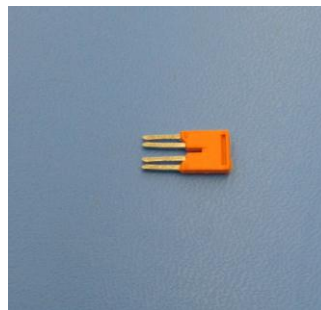
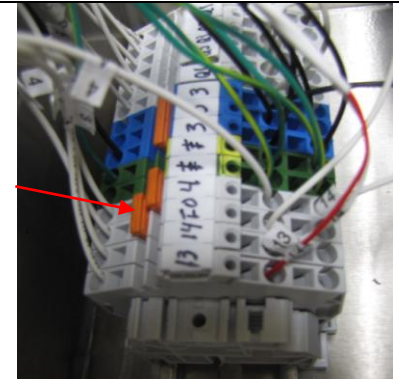

Figure 3
Figure 4
2. Obtain two-place jumper part #977.4 as shown in Figure 3. Install jumper on the 10 and 4 terminal blocks on the 24 volt din rail. See Figure 4.